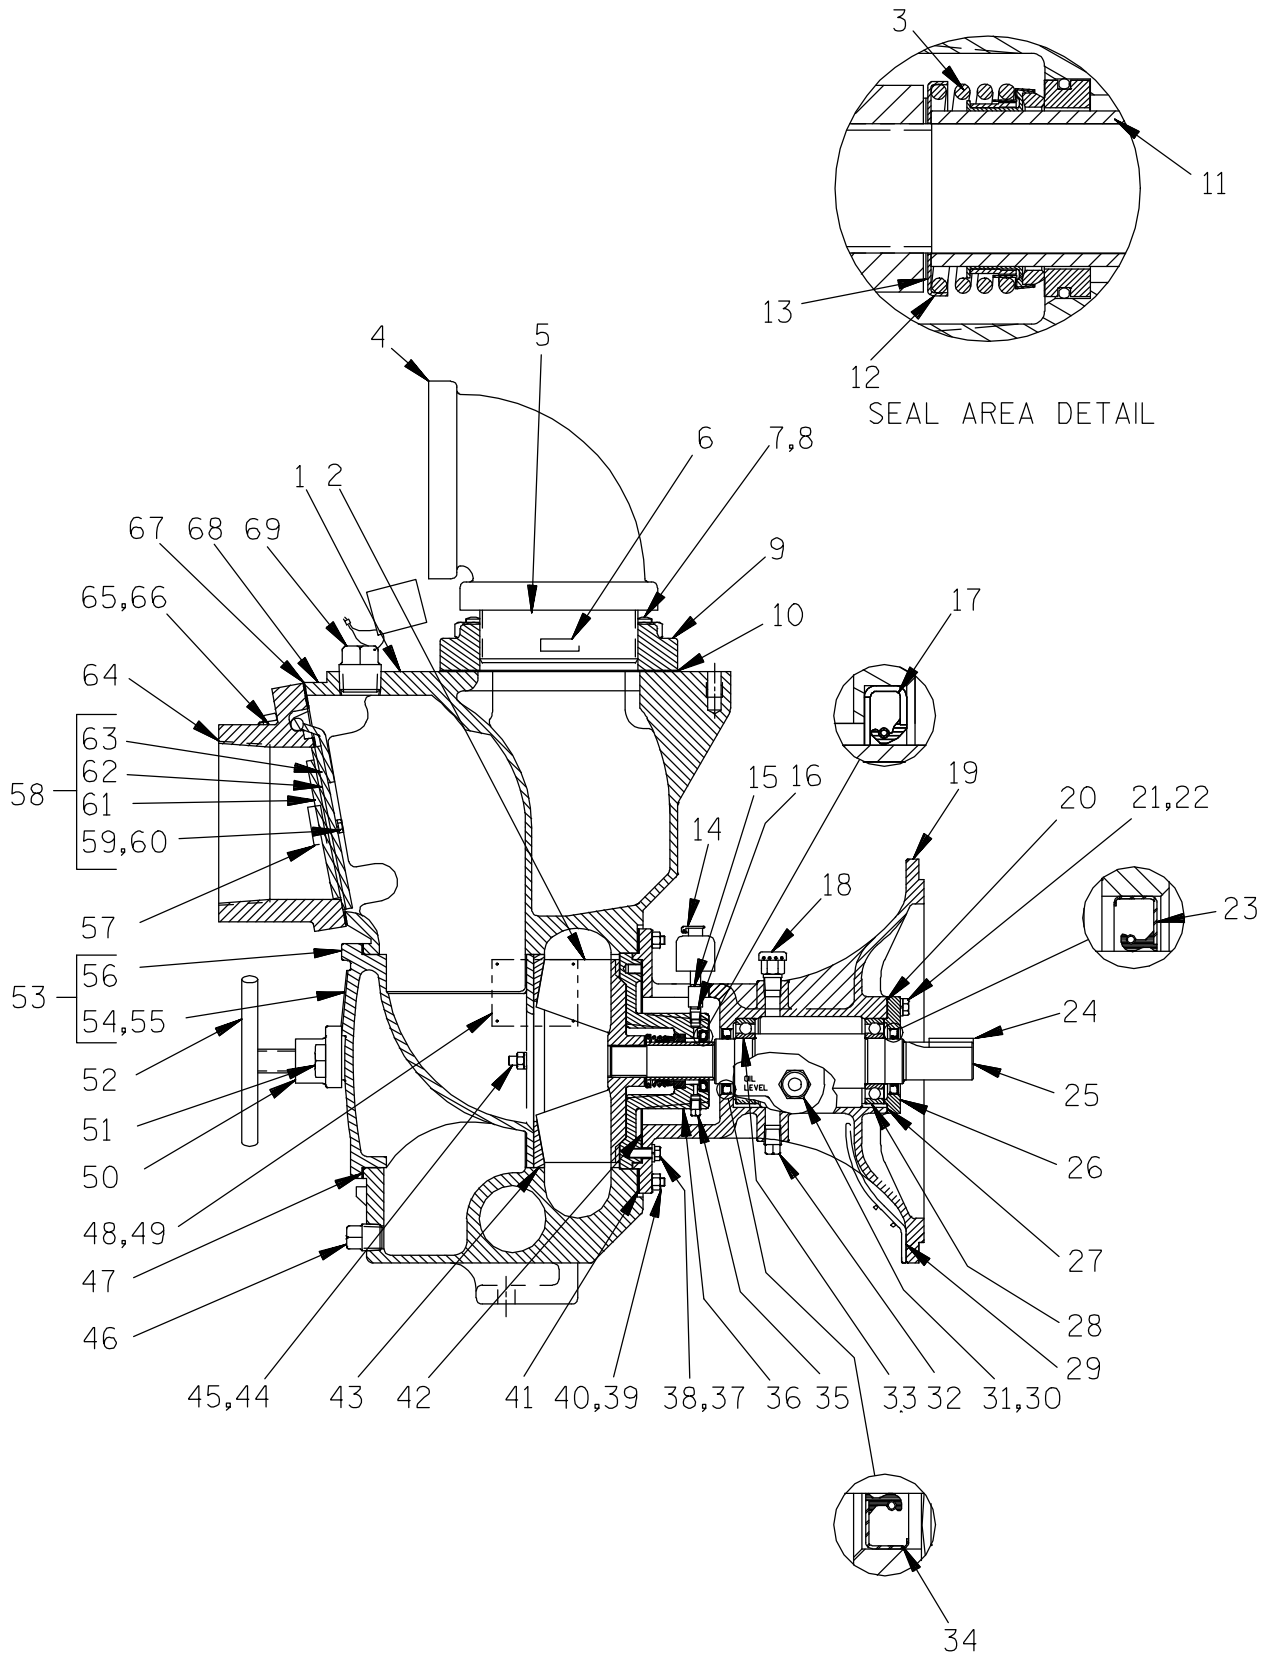

Figure 3. 16D60-(SAE 4/10) Pump End Assembly
(Figure 3)
Disengage the hardware (6 and 7) securing the drive flange to the engine bellhousing, and remove the guards (29, Figure 3). Remove the hardware (not shown) securing the pump casing to the base. Separate the pump end and drive assembly from the engine by pulling the pump end straight away from the engine.
two allen head setscrews from the bushing (2). Screw one of the setscrews into the puller hole on the circumference of the bushing. As the coupling and bushing separate, remove the bushing, and slide the coupling off the shaft. Remove the shaft key (24, Figure 3).